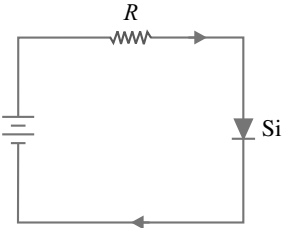

Fig. 4.11
**Example 4.11.** The forward power rating of silicon diode in Fig. 4.11 is 198.7 mW. What should be the minimum value of series resistance  $R$  for the safe operation of the device?